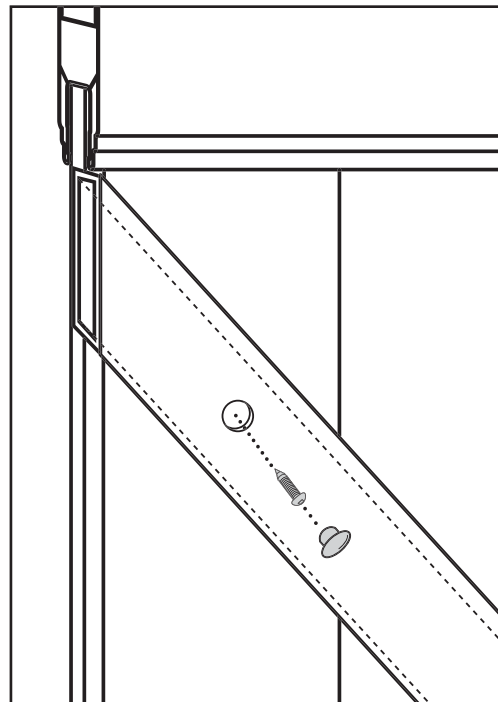

Figure 3
- 11.) Using a 5/8" drill bit, drill through **one side** of the gate brace on the marks. See *Figure 3*.